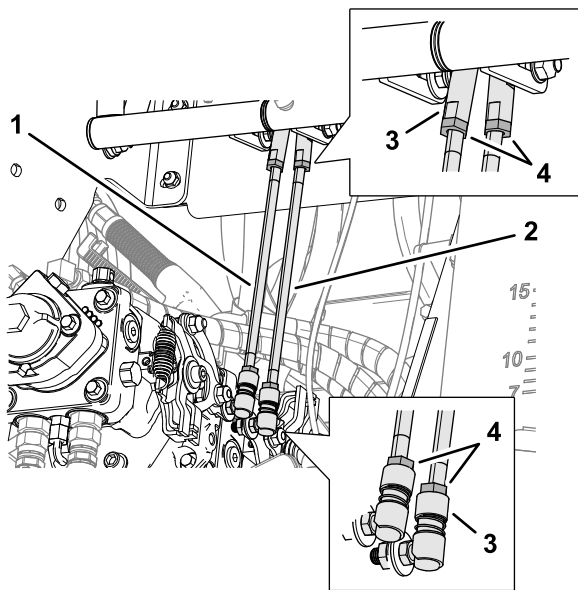

Figure 97
- Loosen the 2 jam nuts that secure the motion-control rod at the upper and lower ball joints (Figure 97).
7. Tighten the jam nuts (Figure 97).